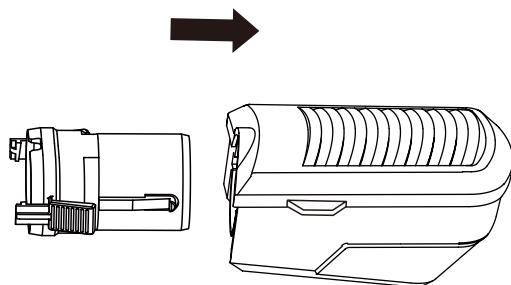

Figure 3-1
3. USING THE DUST BOX (SEE FIG. 3-1, 3-2 & 3-3)